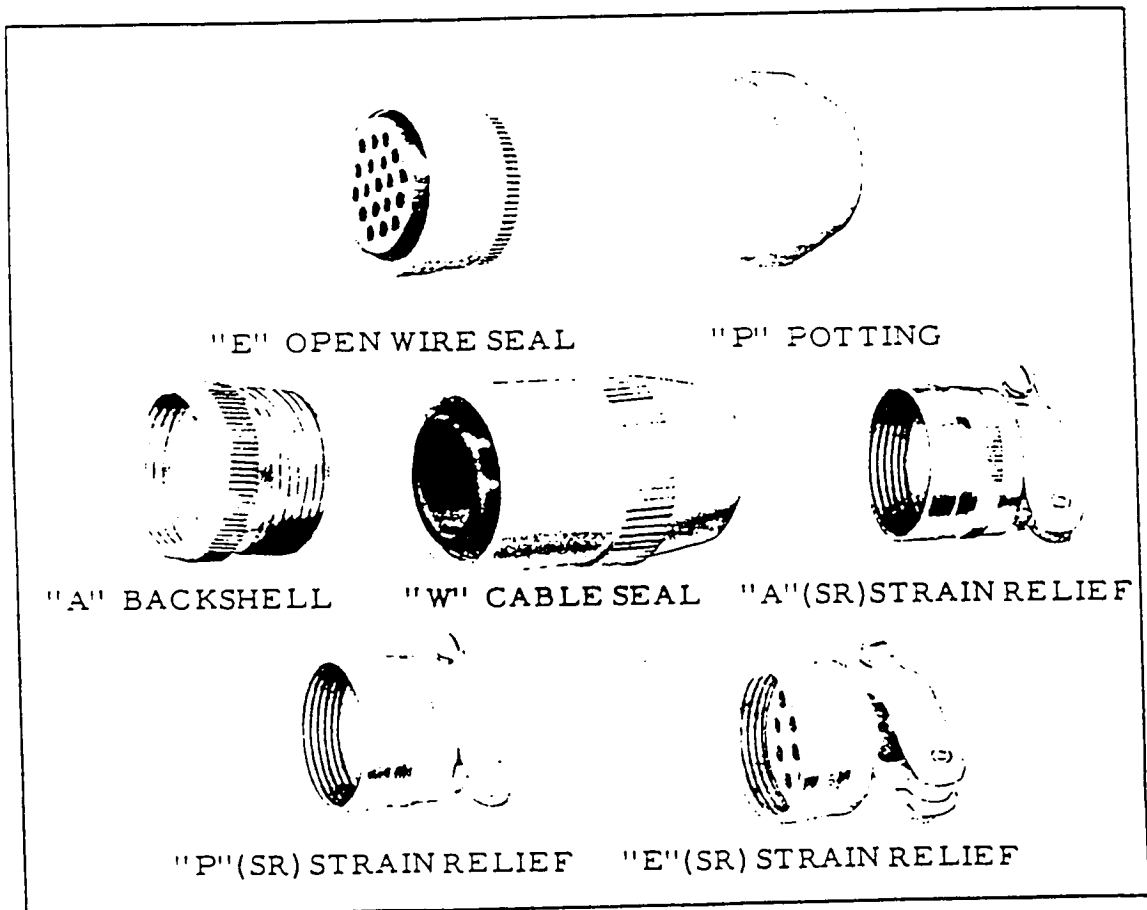

Figure 4.
- 3-2. There are 7 terminations used in assembling the various styles of Bendix Pygmy connectors, as illustrated in figure 4. The connectors may be held with the applicable 11- holding tool, as called out in Table II, while tightening the various back accessories with the 11-6147-1 Pliers or equivalent.